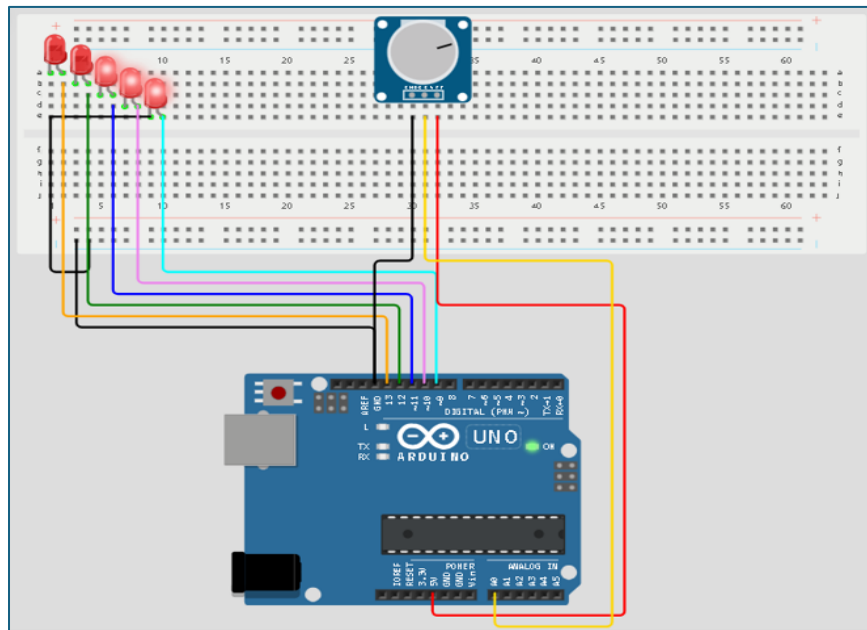

Figure 7.3
c) Then, start simulation and turn the potentiometer knob to get the output shown in figure 7.3.